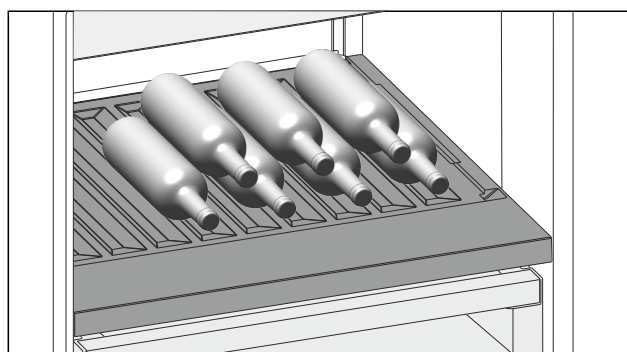

Fig. 98
- Place bottles in the back row with their bases against the back wall. (see Fig. 98)